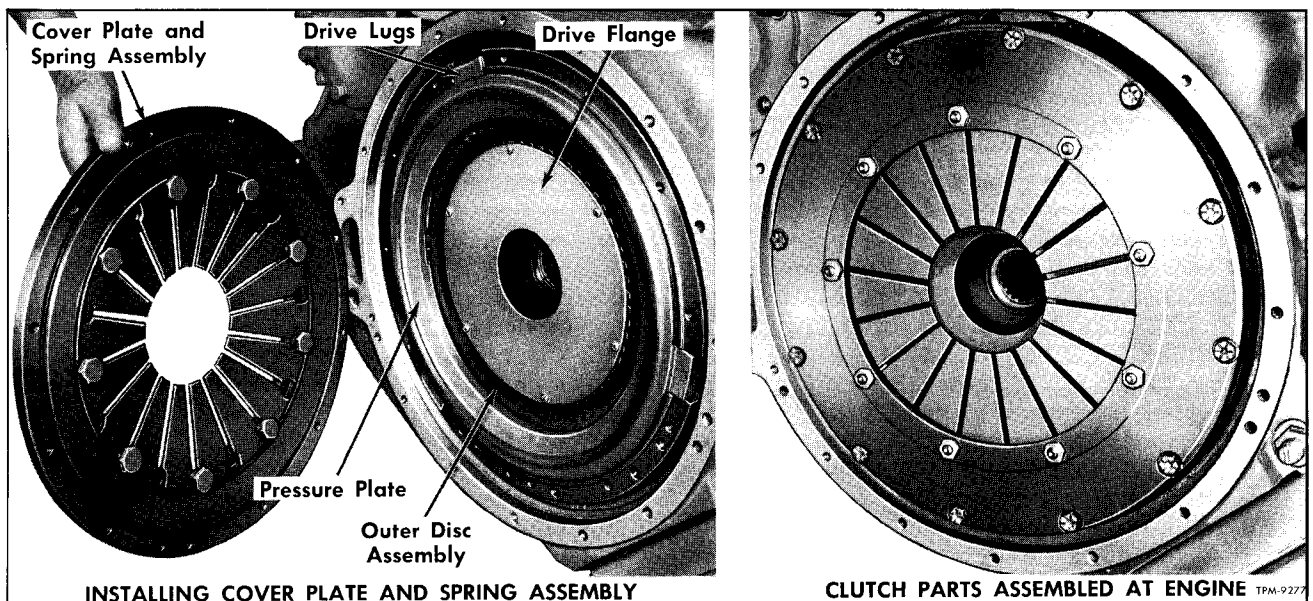

Figure 5—Installing Clutch Cover Plate and Spring Assembly
Refer to figure 5 for views of cover and spring assembly.
c. Final tighten nuts to 15 to 20 ft. lbs. while holding bolt head with one of the points located over fulcrum ring as shown in figure 5.
3. Place outer disc on drive flange and against center spacer plate, then set pressure plate against outer disc with drive lugs engaging slots in flywheel (fig. 5).